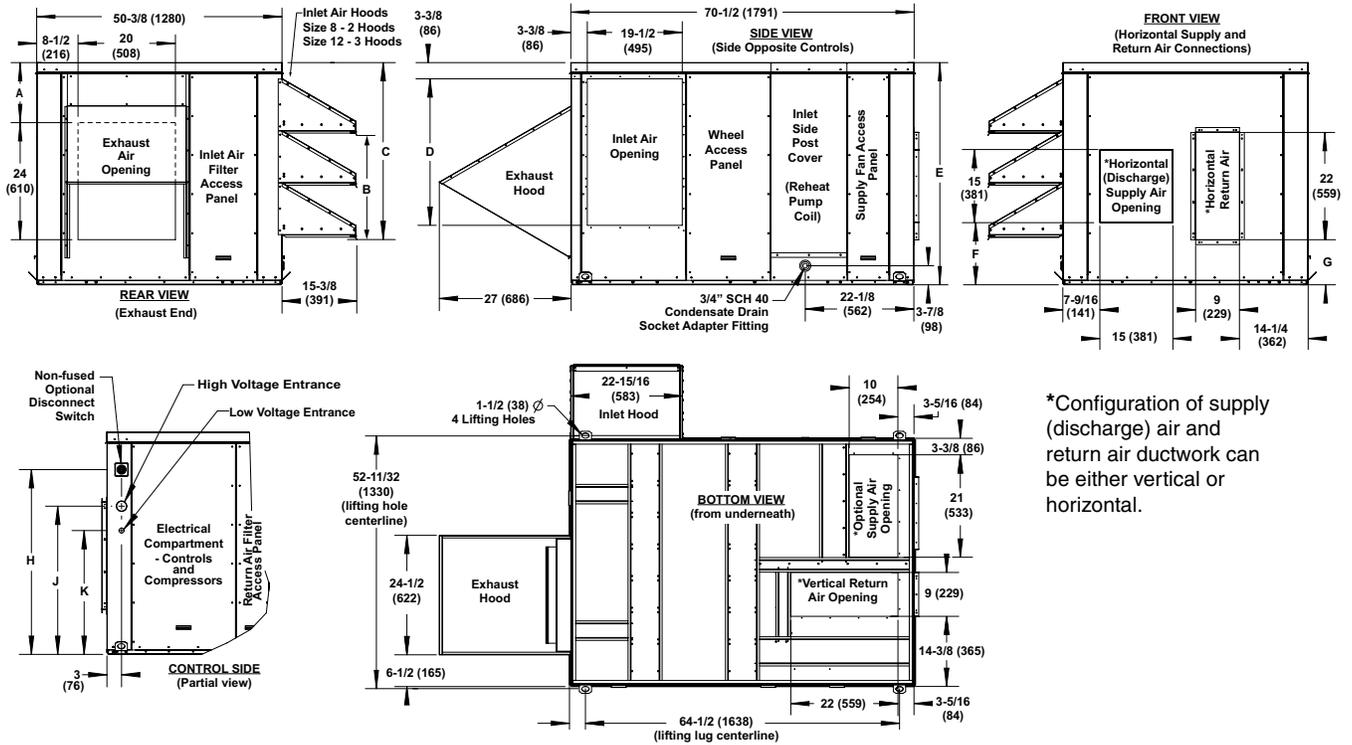

Figure 1. Unit Dimensions (Refer to Table 2)
Unit dimensions are listed in Table 2 and shown in Figure 1.
*See Figure 1.